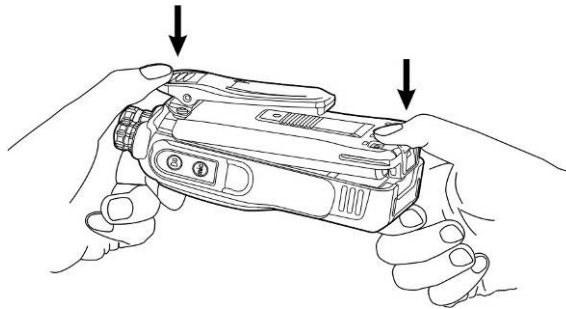

Figure 4
- ② Press the bottom of the battery until a “click” is heard to fasten the battery on the bottom of the radio. See figure 4.